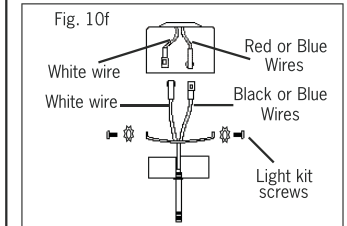
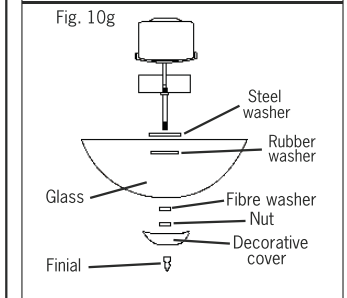

Fig. 10f
Fig. 10g
- Place glass on light housing and secure (See Fig. 10f, Fig.10g).